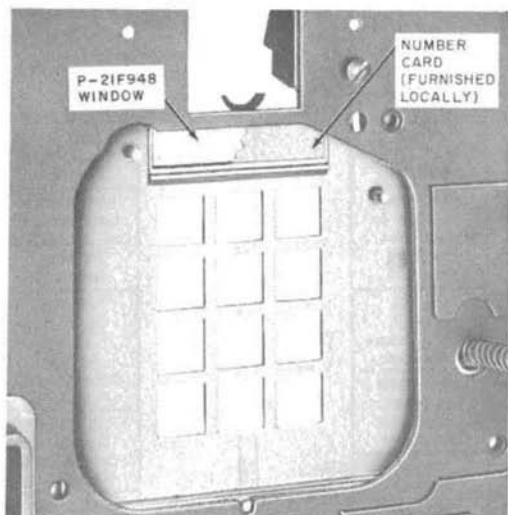

Fig. 18—Window and Number Card Installed in Faceplate (TOUCH-TONE Set)
- (1) Remove dial housing.
- (2) Insert P-21F948 window in faceplate from rear (Fig. 18).
- (3) Insert number card in window (Fig. 18).